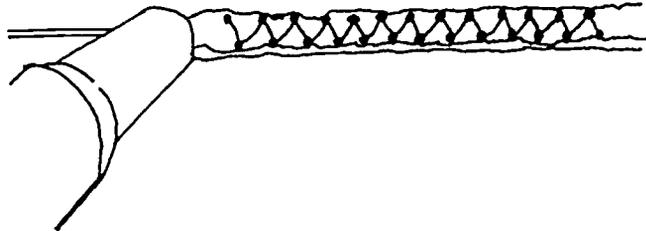

FIGURE 4
- G. Start arc $3/4''$ to $1''$ down the joint; then move to end and begin welding using some type of weaving manipulation (Figure 4)